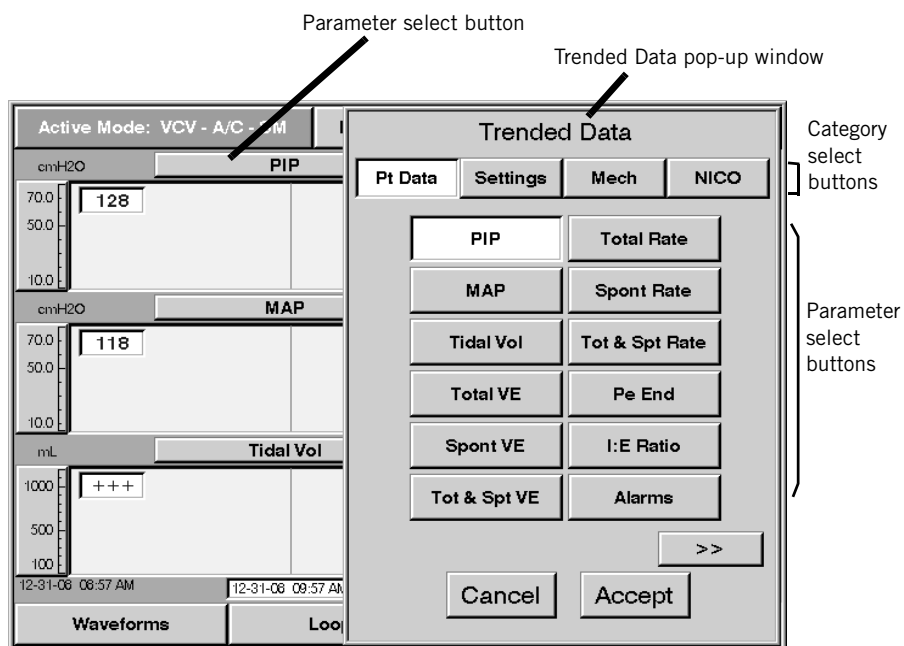

Figure 13-67: Selecting Speaking Mode on the Trended Data Screen
2. Press the **Trending** button at the bottom of the settings screen (see Figure 13-67).
3. Choose a **Parameter select** button (light blue button above each displayed data option) that shows the name of the currently displayed data option (see Figure 13-67).
To display trended data in **Speaking Mode**, press the **Speaking Mode Parameter select** button over the displayed data option (if displayed). Or press any **Parameter select** button to activate the **Trended Data pop-up window**. (Figure 13-67).